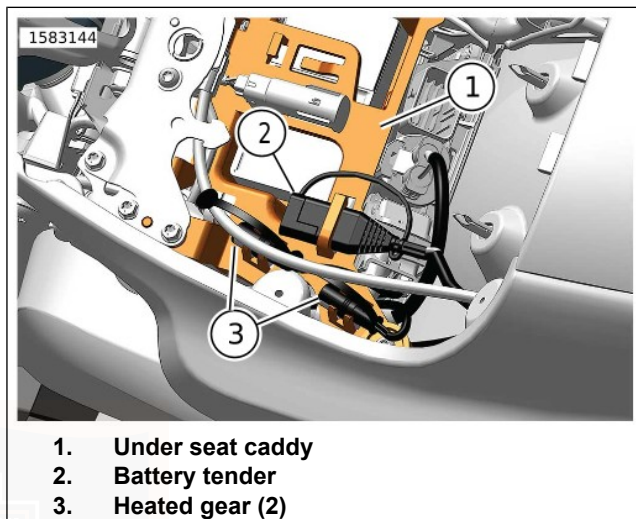

Figure 56. Under Seat
Figure 56 Maintaining the battery between rides and while stored can maintain battery charge and extend the life of the battery. Connect the battery tender connector (2) to a battery tender during storage or to a battery charger if the battery voltage drops below specification. See SERVICE PROCEDURES > BATTERY MAINTENANCE (Page 138).